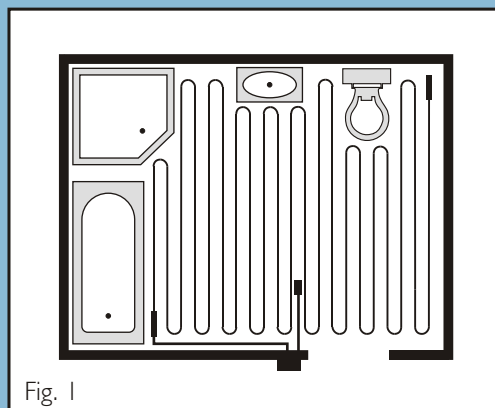

Fig. 1
- Type of heating - primary (Figure 1);